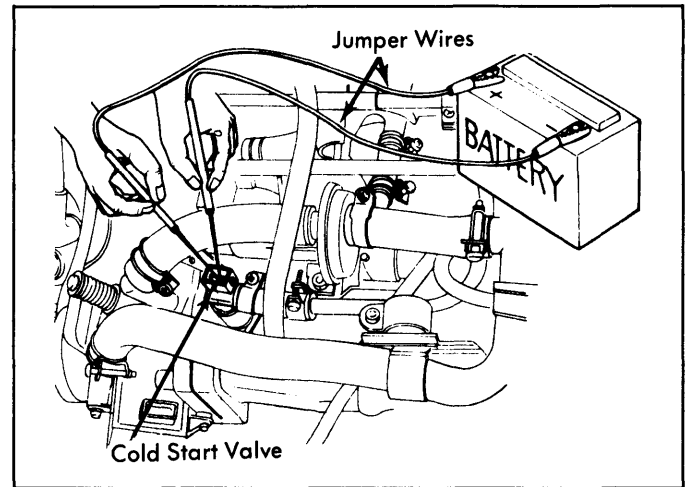

Fig. 5: Releasing Fuel Pressure At Cold Start Valve (Datsun)
- 1975-78 Datsun** – 1) Disconnect cold start valve connector. Release fuel line pressure by connecting terminals of cold start valve to battery terminals for 2-3 seconds, using jumper wires. See Fig. 5.
1977-78 Datsun – 1) Disconnect negative battery cable. Disconnect cold start valve connector. Release fuel line pressure by connecting terminals of cold start valve to battery terminals for 2-3 seconds, using jumper wires. See Fig. 5.
1979 Removal & Installation (All Models) – Disconnect negative battery cable. Disconnect cold start valve connector. Release fuel line pressure by connecting terminals of cold start valve to battery terminals for 2-3 seconds, using jumper wires. See Fig. 5. Remove 2 screws and cold start valve from intake manifold. To install, reverse removal procedure.
1979 Removal & Installation (Datsun) – Disconnect negative battery cable. Disconnect cold start valve connector. Release fuel line pressure by connecting terminals of cold start valve to battery terminals for 2-3 seconds, using jumper wires. See Fig. 5. Remove vacuum hose connecting pressure regulator to intake manifold. Remove pressure regulator. To install, reverse removal procedure.
1979 Removal & Installation (Datsun) – **1)** Disconnect negative battery cable. Disconnect cold start valve connector. Relieve fuel pressure by connecting terminals of cold start valve to battery terminals for 2-3 seconds, using jumper wires. See Fig. 5.